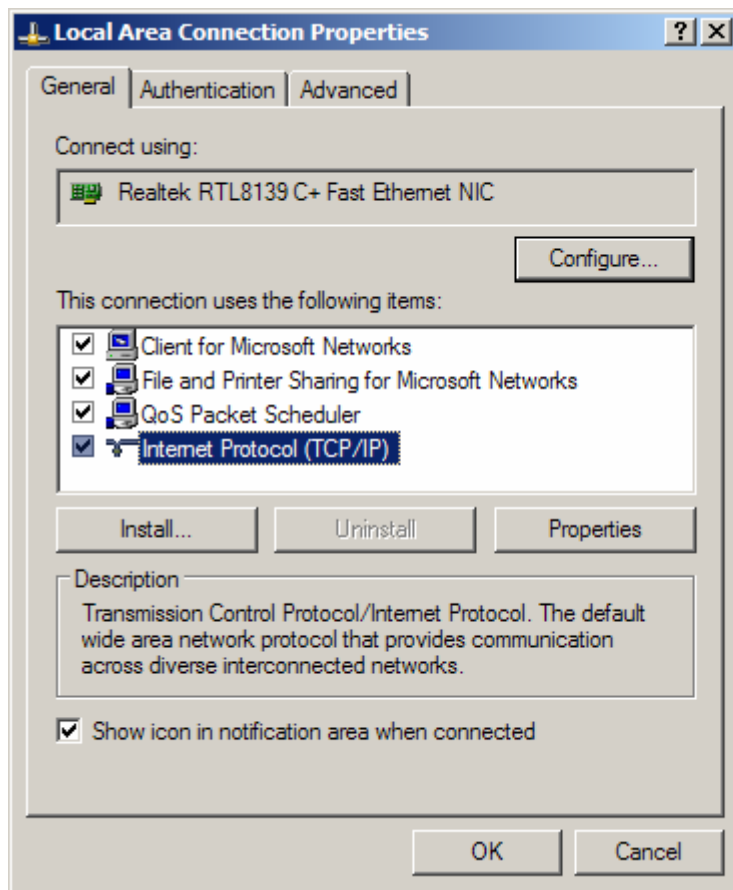

Figure 4
6. On the "Local Area Connection Properties" window, select "Internet Protocol" and click on the "Properties" button. See Figure 4.